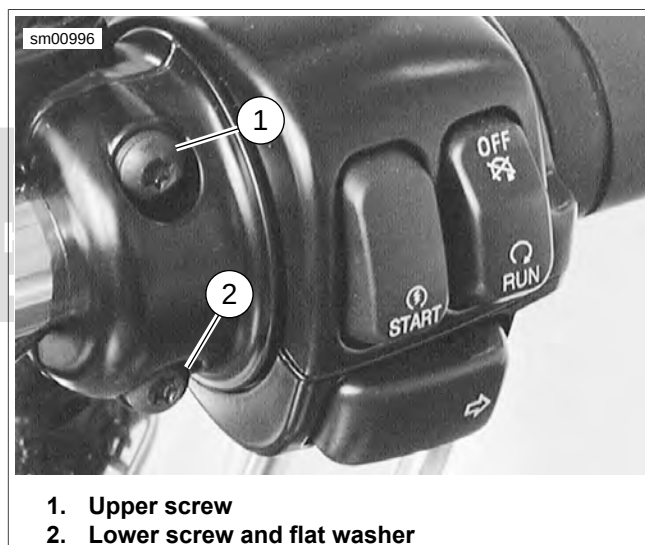

Figure 7-56. Handlebar Clamp Screws (typical)
4. See Figure 7-56. Loosen the upper screw (1) securing the handlebar switch clamp to the master cylinder housing. Remove the lower clamp screw with flat washer (2).